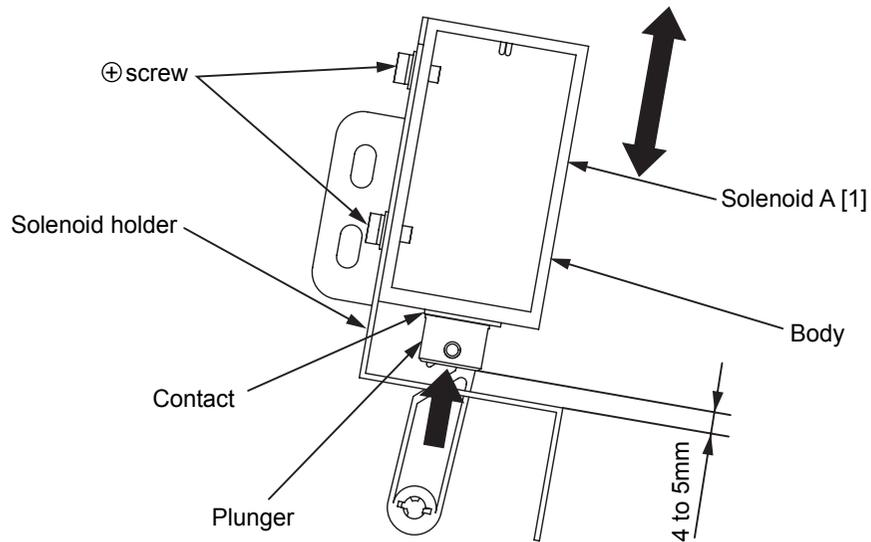

Fig. 6-61. Positioning the solenoid A [1]
2. Secure the solenoid A [1] with two plus screws so that the clearance between the plunger and the solenoid holder becomes as shown in Fig. 6-61 when contacting the plunger to the solenoid A [1] body.